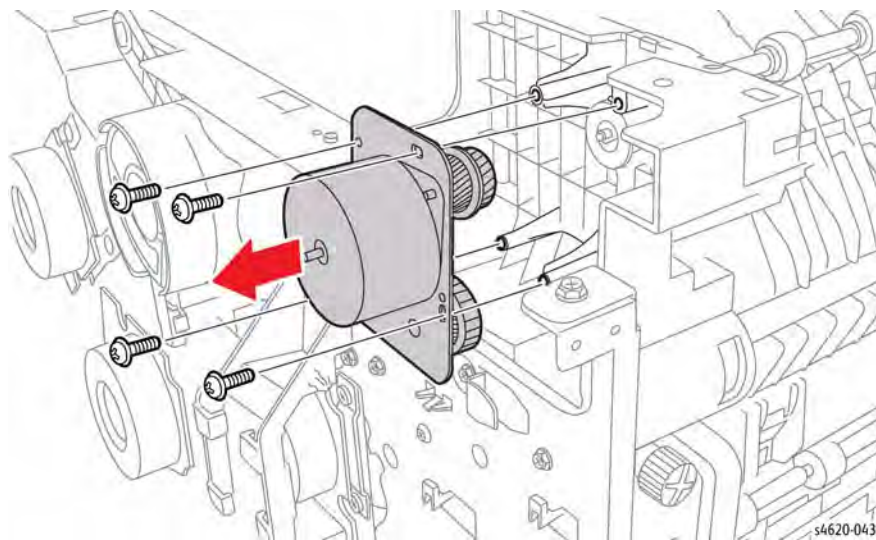

Figure 3 Remove the Exit Drive Assembly
13. Disconnect P/J40 to remove the Exit Drive Assembly, Figure 3.